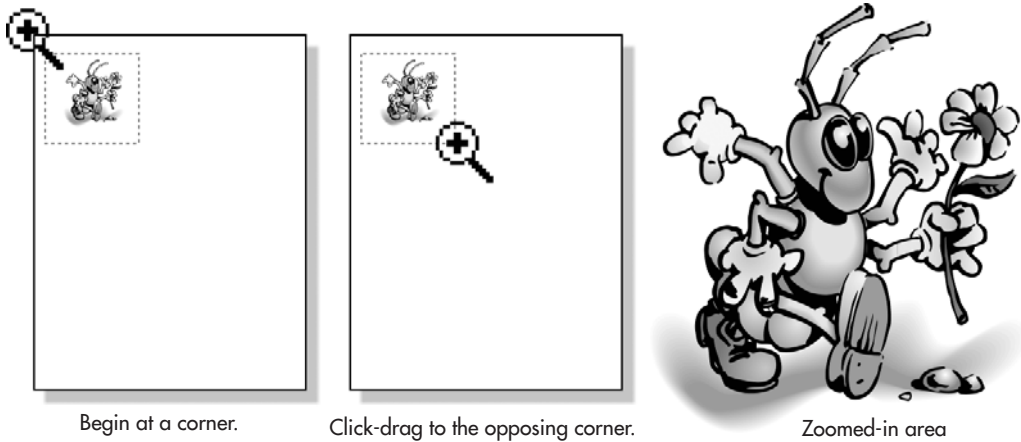

FIGURE 4-4 Marquee-dragging is the easy way to pinpoint a location and zoom in.
- Zoom In** Zoom In is the default state while the Zoom tool is selected. Clicking once in the drawing window increases your view magnification by twice the current percentage of zoom—100 percent goes to 200 percent with a click, then to 400 percent with another click in the window. Here's an important point: when you zoom in this way, using the tool and not the Zoom Levels selections, *you zoom in centered relative to the tool's cursor location onscreen*. You direct the final point of your zoom by centering it with your cursor. You can also use the Zoom tool to perform *marquee* zooming, shown in Figure 4-4. You place your cursor at the corner of the area you want to magnify, and then click-drag diagonally to the opposing corner of an imaginary bounding box that defines the area to which you want to zoom. You can target any two opposing corners, but most users tend to diagonally drag from upper left to lower right of an area.